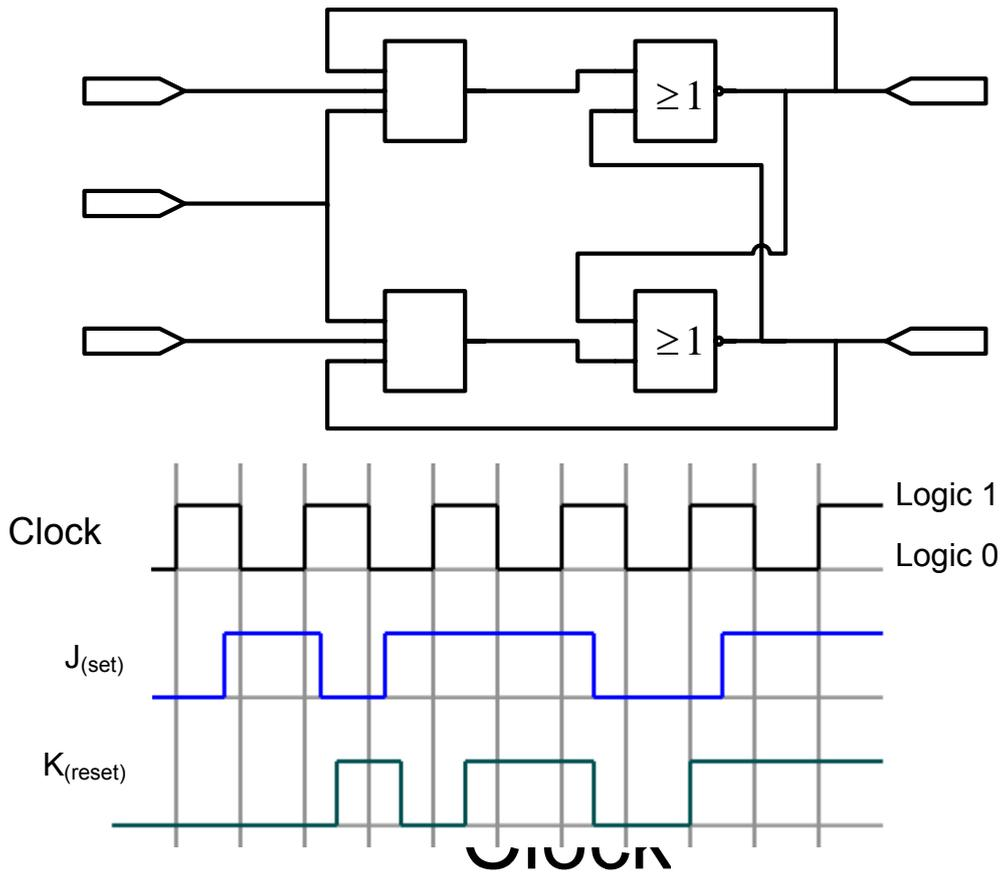

FIGURE 9.3: J-K FLIP-FLOP WITH INPUTS AND CLOCK PULSE
9.8 Draw the output-timing diagram of the J-K flip-flop in FIGURE 9.3 below if the following inputs are applied to J and K. Draw the output below the inputs to show the output in relation to the input. Note the state of the enabling clock pulse.